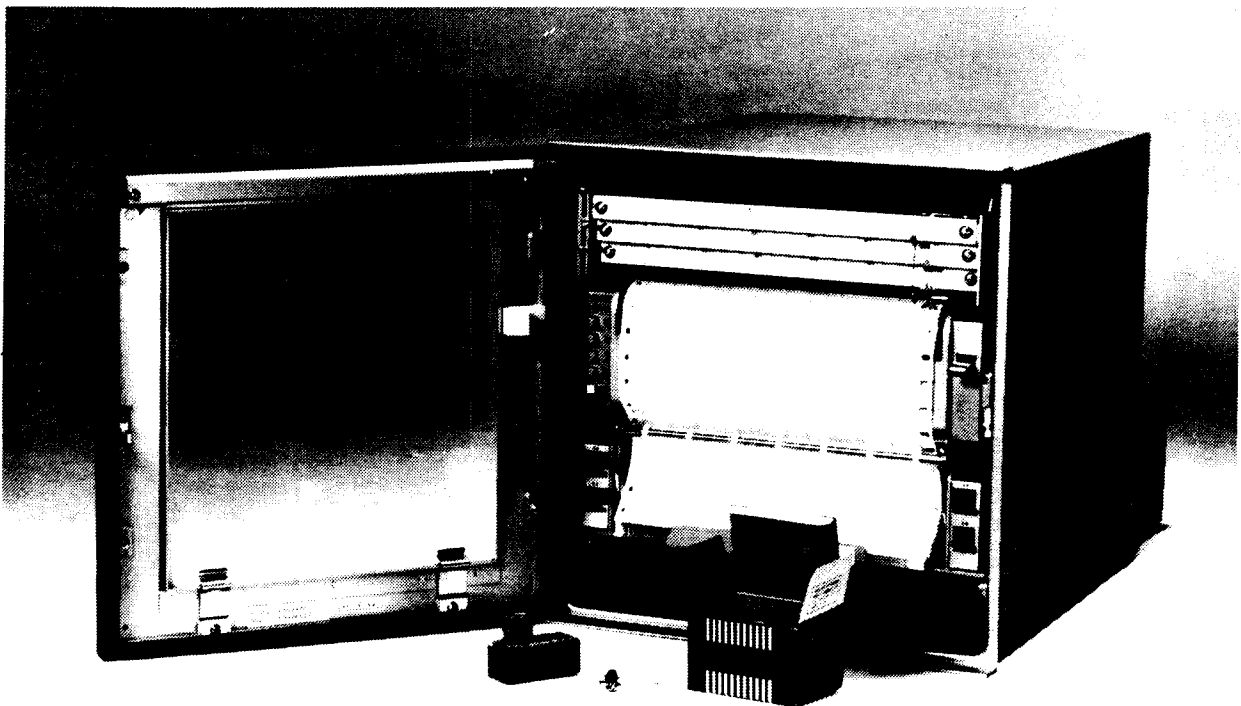

Figure 1-1. Continuous Temperature Recorder
1.1.1 Continuous Recorders (See Figure 1-1)